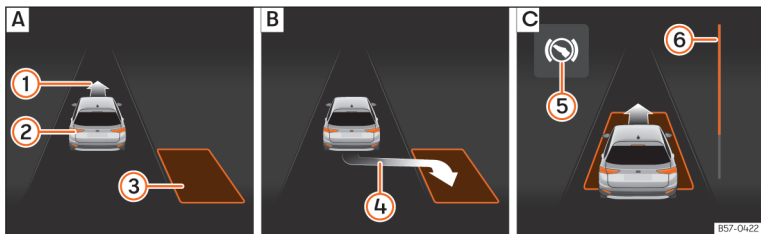
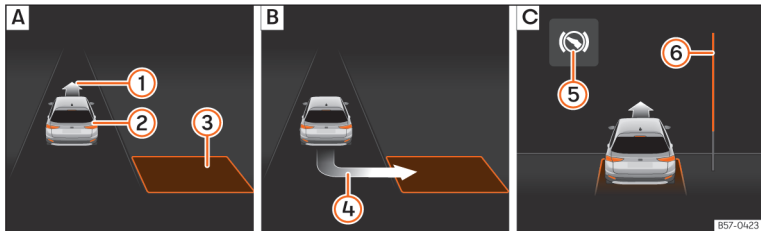

Fig. 125 On the instrument cluster display: parallel parking. **A**: Finding a parking space **B**: Parking position. **C**: Manoeuvring.
Fig. 126 On the instrument cluster display: angle parking. **A**: Finding a parking space **B**: Parking position. **C**: Manoeuvring.
- Look at the instrument cluster screen to see if the space has been detected as “appropriate” and if the correct position for parking has been reached >>> Fig. 125 **B** or >>> Fig. 126 **B**. The space is considered “appropriate” if the instrument cluster display shows the parking indication ④.
- Reverse until the continuous ParkPilot signal sounds; **OR:** reverse until the indication to move forward appears on the instrument panel display >>> Fig. 125 [C] or >>> Fig. 126 [C]; **OR:** reverse until the **Park Assist finished** message appears on the instrument cluster display. The progress bar (6) indicates the distance to cover.
- Press the brake pedal until the parking assist system completes the steering wheel turns; **OR:** until the symbol (S) goes out on the instrument panel screen.
- Move forward until the continuous ParkPilot signal sounds; **OR:** move forward until the reverse indication appears on the instrument panel display. The Park Assist system steers the vehicle forward and back until it centres it in the space >>> Fig. 125 [C] or >>> Fig. 126 [C].
The progress bar >>> Fig. 125 (6) and >>> Fig. 126 (6) on the instrument cluster display shows the relative distance to be covered as a symbol. The greater the distance, the fuller the progress